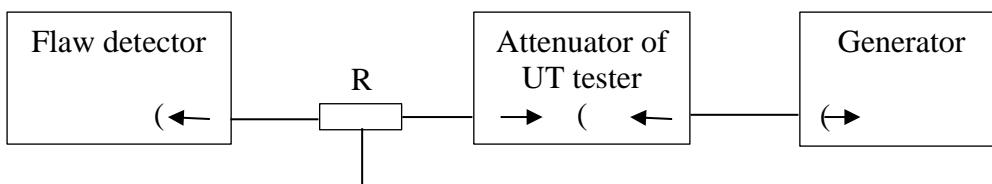

Figure 3.2 – Connection diagram of flaw detector for determination of the modal accuracy when measuring echo-signal amplitudes from defects
1. Make a connection diagram shown in Figure 3.2, where  $R = 51 \text{ Ohm}$  ( $C2-10-0,25-51 \text{ Ohm} \pm 0,5\%$ ).
1. Make a connection diagram shown in Figure 3.2 (p. 3.3.6).